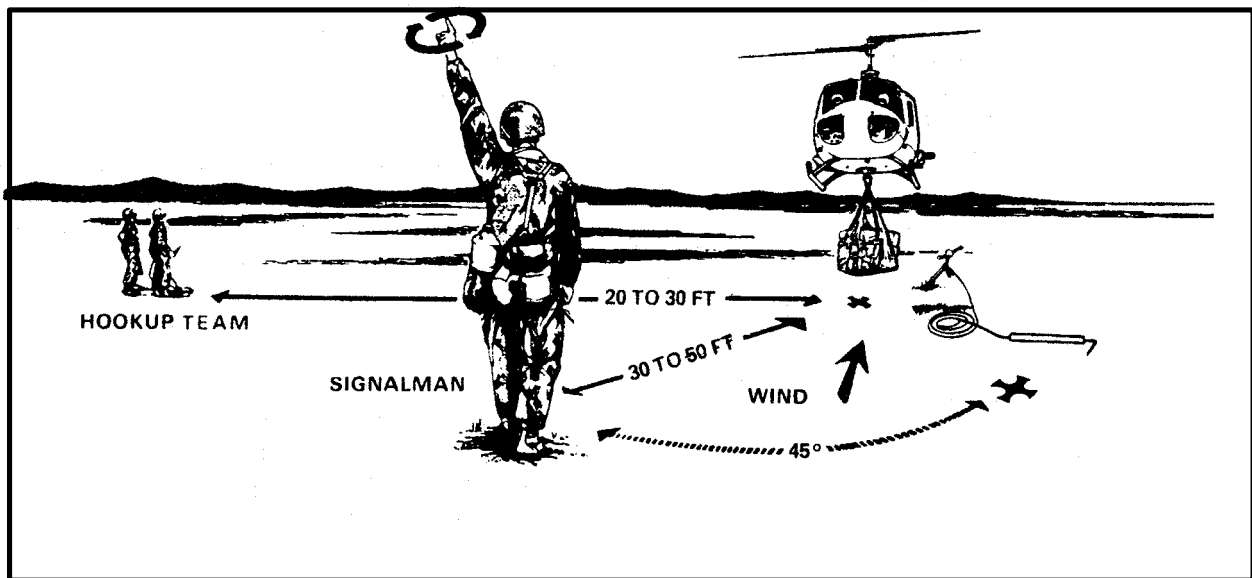

Figure 5-7. Ground Crew Positions During Helicopter Takeoff
(10) When the load is 10 to 20 feet higher than the surrounding loads or obstacles, the signalman gives the takeoff signal in the direction he wishes the pilot to depart the landing site. When pointing, the signalman steps off in the same direction as he is pointing to make his signal more pronounced. He then moves out of the way so the helicopter does not pass directly overhead. After the pilot completes any required aircraft checks, he departs the area (Figure 5-7).
(11) If the sling legs could not be taped or tied (breakaway technique) to prevent them from becoming entangled during lift-off, the hookup team or additional personnel may be required to guide the sling legs as the aircraft lifts up and removes the slack from the sling legs. These personnel must use extreme caution so that they do not become trapped between the sling legs and the load. Proper breakaway technique taping prevents the sling legs from becoming entangled on the load. If the helicopter settles back down once the load is hooked